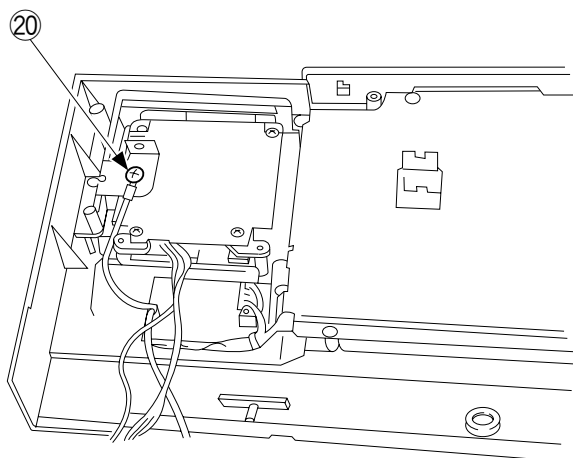

Figure 9-414
14) Install the grounding wire ②① of the control card as shown in Figure 9-414.